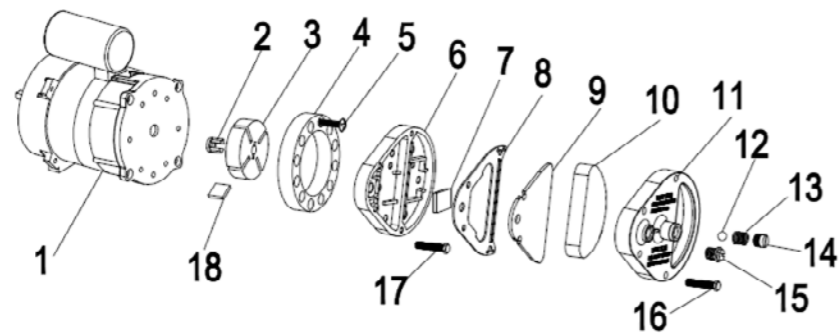

Fig.3
Clean air filters. Remove filter end cover (11), wash air intake filter (10) using a light detergent and dry it thoroughly before re-installing. Replace air delivery filter (9) once a year (Fig.3)